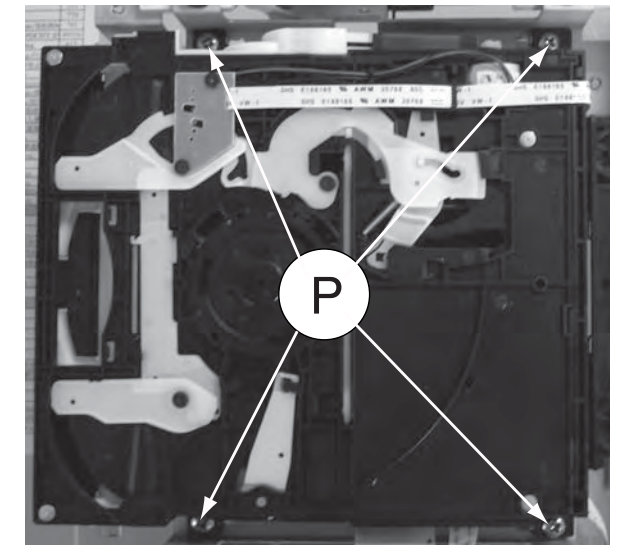

Figure 17
- 2) Loosen 4 screws "P" at the BD Loader as shown in figure 17.